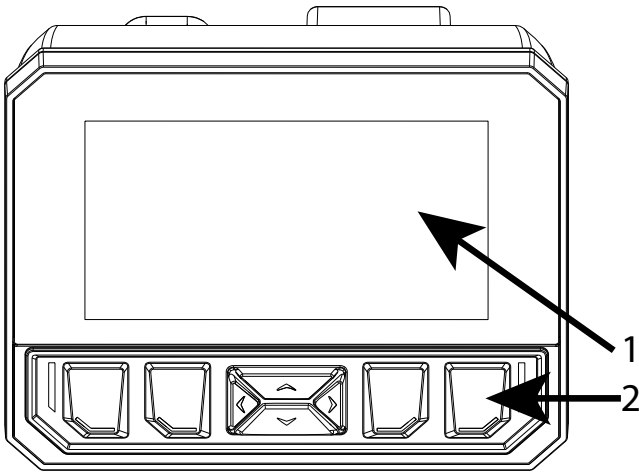

Figure 4-3. InfoCenter Display
- 12. Fuel Shutoff Valve (Figure 4-3).** Located on the left side of the machine on the operators platform. Used to shut off fuel supply to the engine and change fuel supply between the fuel tanks.
The InfoCenter LCD display shows information about your machine, such as the operating status, various diagnostics and other information about the machine (See Figure 4-3). There are three screens to navigate left and right. You can switch between the screens and main information screen at any time by selecting the appropriate directional arrow.